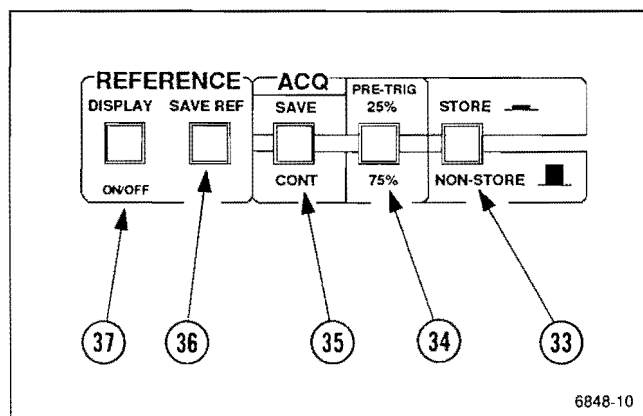

Figure 2-7. Storage controls.
See Figure 2-7 for locations of items 33 through 37.
- ③③ **STORE/NON-STORE Switch**—Selects either the NON-STORE or the STORE waveforms for display. The STORE acquisition system is turned off while NON-STORE is selected so that the last waveform acquired in STORE mode remains in memory. NON-STORE is selected when the button is out; STORE mode when pressed in.
- ③④ **PRE-TRIG 25%/75% Switch**—Selects either 25% pretrigger or 75% pretrigger. If either RECORD mode or SGL SWP ROLL mode is selected, the trigger position is shown on the display by an intensified dot. The switch selects 75% pretrigger when out; 25% when pressed in.